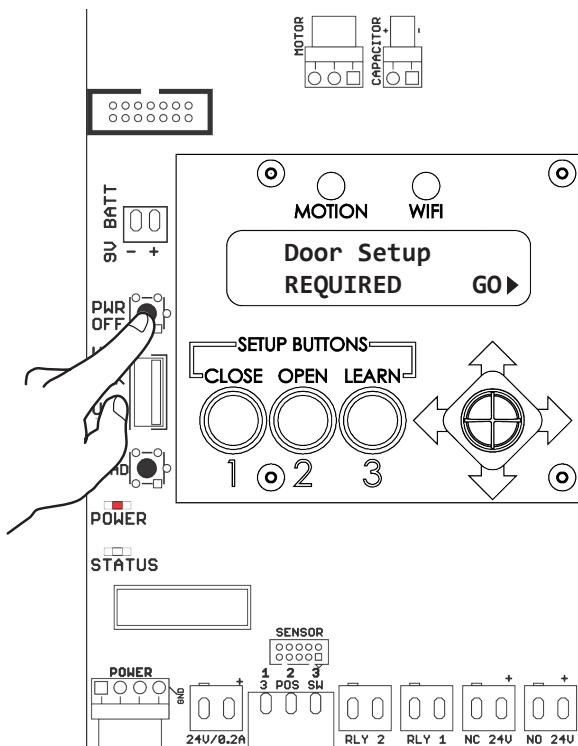

Figure 2
3. Use supplied green connectors to wire in any devices needing outputs, such as electric strikes, mag locks, exit devices, door open position output, etc. (Figure 2) See Input Connections and Output Connections on page 8 for information.
4. Turn on building power feed. Power will normally be "On" for operator. Power can be turned on or off by pressing power button. (Figure 2)
NOTE: On control board there should be one solid red LED for POWER and one white LED that flashes every 1.5 - 2 seconds for STATUS. CLOSE button of Setup Buttons should be flashing orange continuously. (Figure 2)